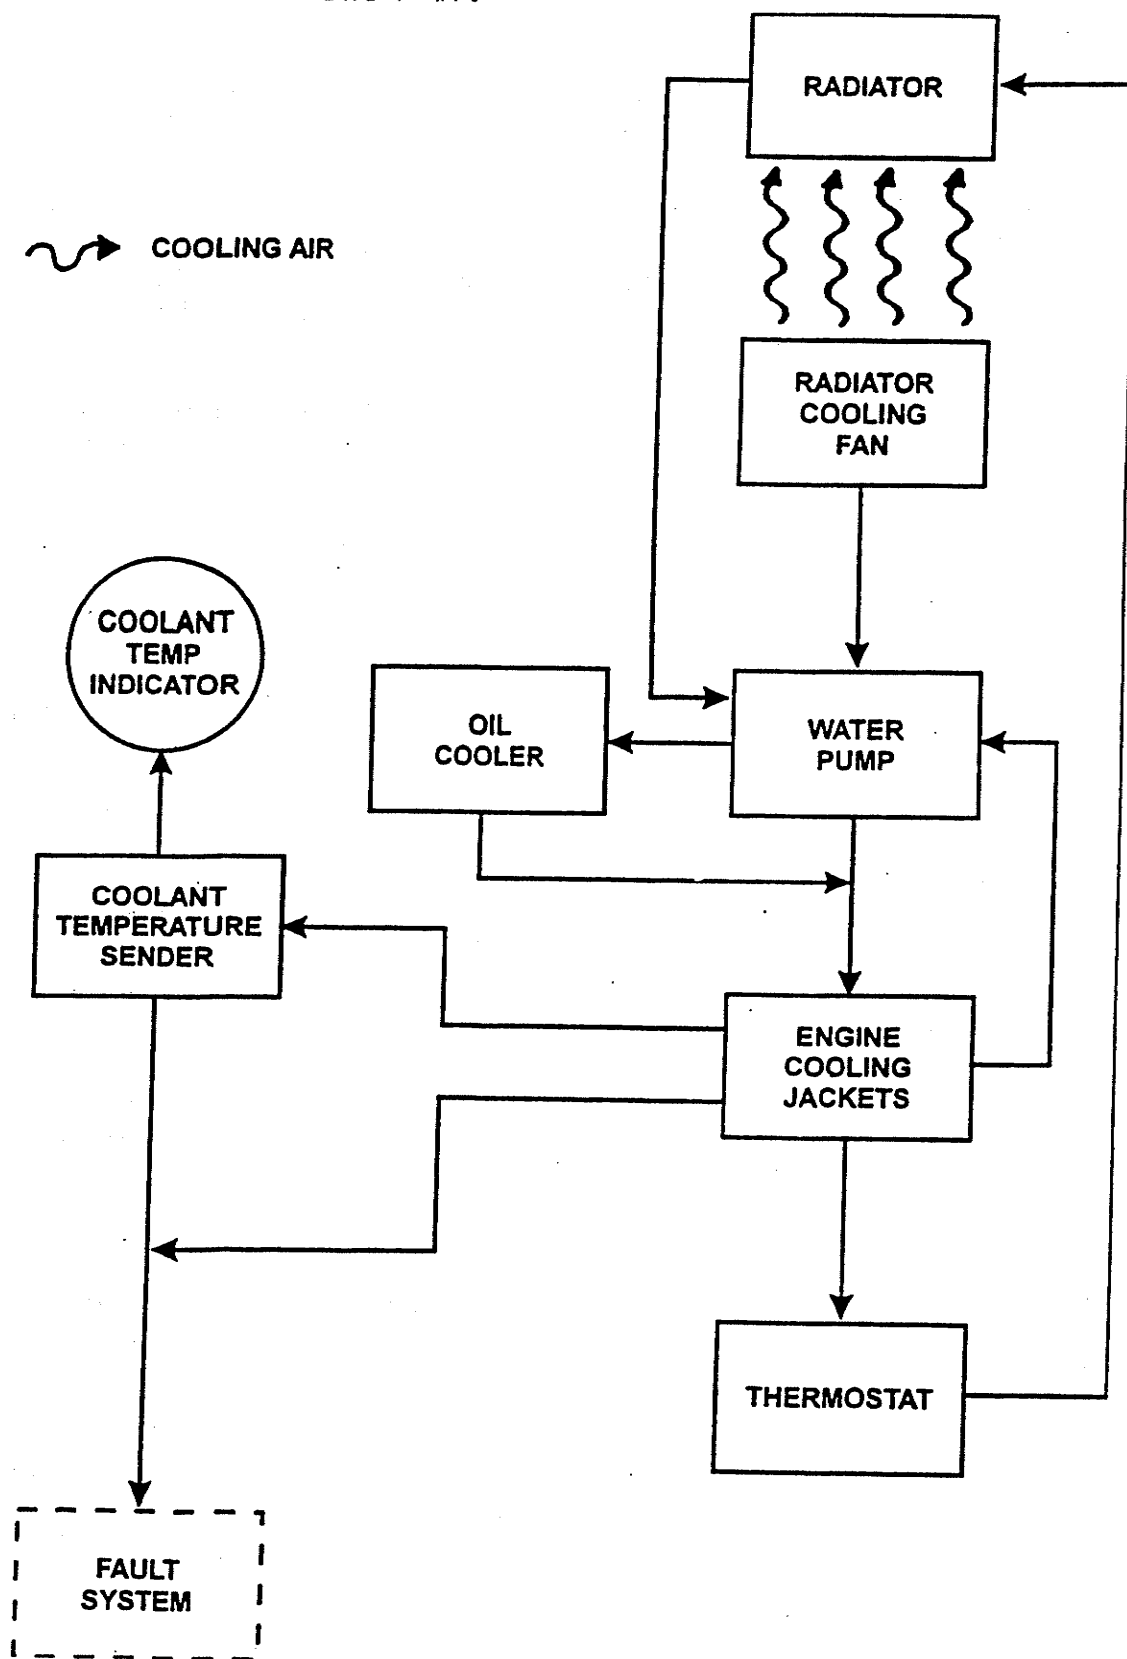

FIGURE 1-24. ENGINE COOLING SYSTEM FLOW DIAGRAM
- 1.16.8.1 The Engine Cooling System (Figure 1-24) consists of a radiator, hoses, thermostat, coolant temperature sender, CIM display screen COOLANT TEMP indicator, water pump, oil cooler, cooling fan, and cooling jackets (part of engine).